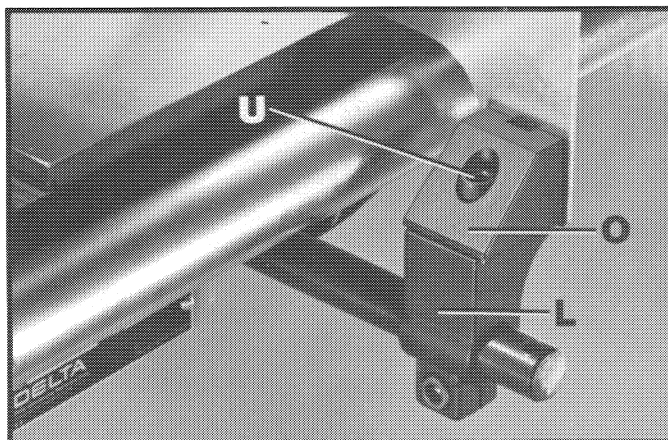
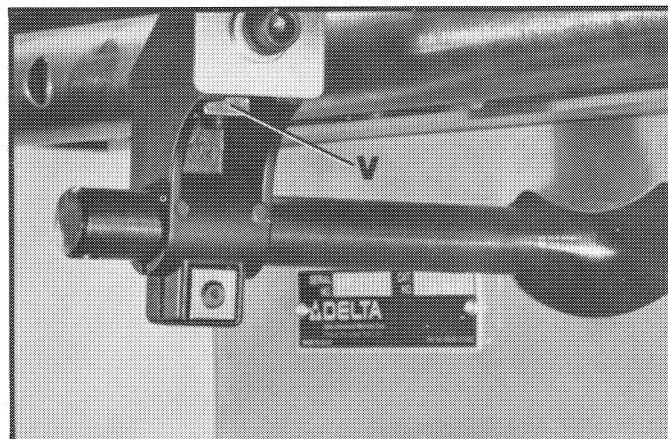

Fig. 14
Fig. 15
13. Assemble bracket (O) Fig. 14, to bracket (L) using the 7/8" long allen screw (U) Fig. 14, and nut (V) Fig. 15. Do not completely tighten screw (U) Fig. 14, as adjustment will be necessary later.